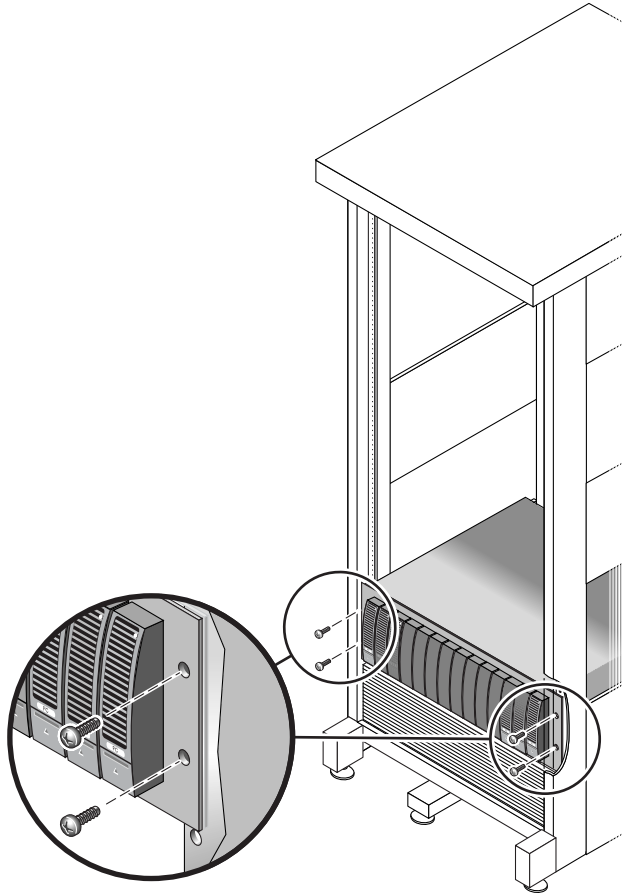

FIGURE 2-17 Securing the Enclosure to the Front of a Sun Rack 900/1000 Cabinet
- For a Sun Rack 900/1000 cabinet, use the No. 3 Phillips screwdriver to install and tighten four M6 screws (two per side) to secure the enclosure to the front of the cabinet (FIGURE 2-17).